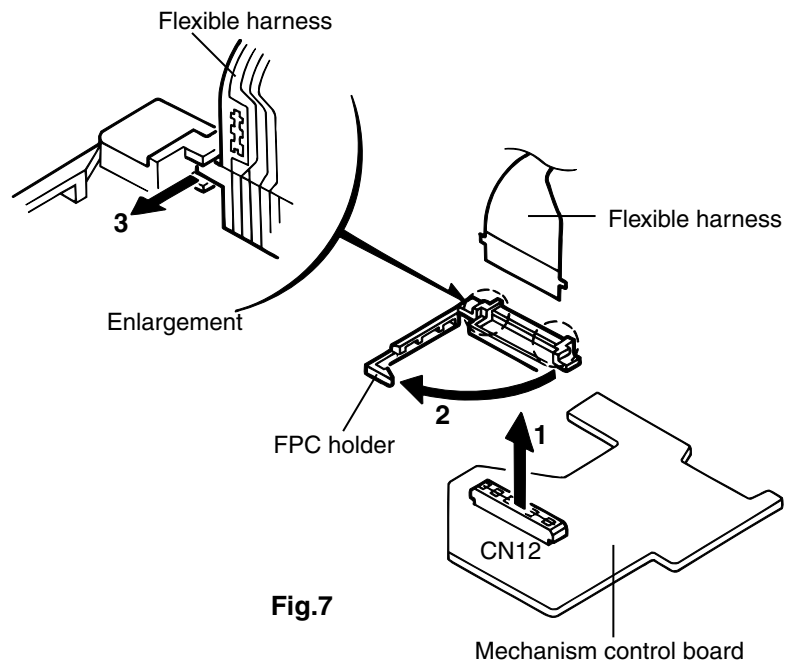

Fig.7
4. Pull out the FPC holder from the CN12 connector on the reverse side of the mechanism control board and remove the flexible harness, referring to Fig.7.